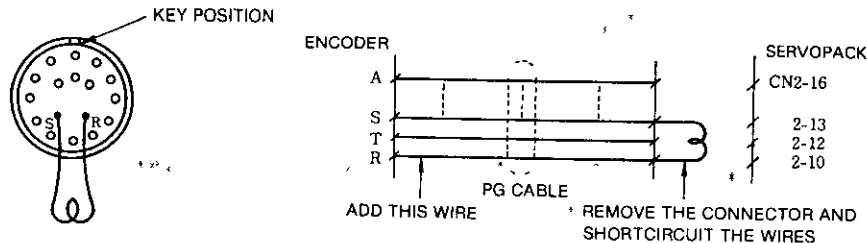

Fig 9.2
- 2 If the system needs to be set up with the motor installed in the load machine and not in contact with the encoder connectors, set the PG cable as shown in Fig 9.2, disconnect 2CN of the SERVOPACK, and connect the wires on the end to the SERVOPACK connector.